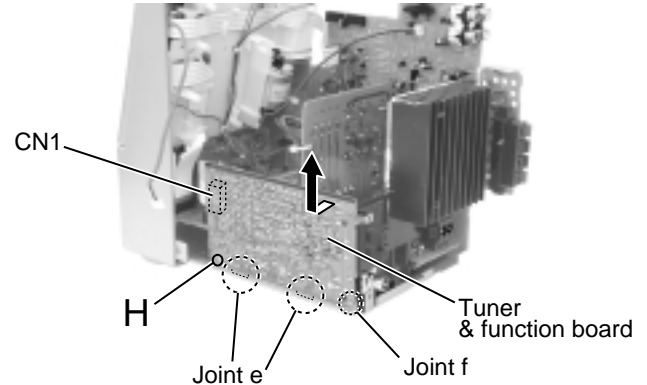

Fig.14
■ Removing the tuner & function board (See Fig.14)